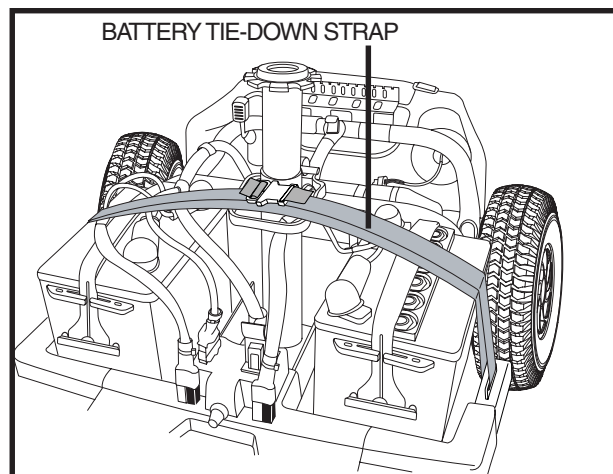

Figure 13C. Battery Tie-Down Strap
2. Disconnect the battery tie-down strap. See figure 13C.
11. Reconnect the battery tie-down strap—making sure the strap is positioned over the frame release lever to ensure proper securement. See figure 13C.